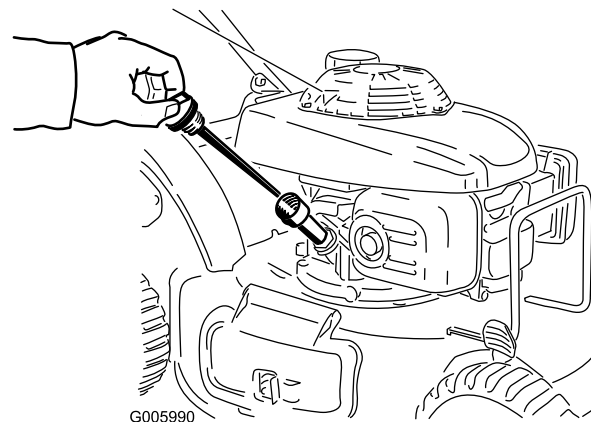

Figure 40
2. Remove the dipstick (Figure 40).
4. **Slowly** pour oil into the oil fill tube, periodically checking the level with the dipstick, until the dipstick indicates that the engine is full as illustrated in Figure 40. **Do not overfill.** (Max. fill: 20 oz. (0.55 l), type: SAE 30 detergent oil with an API service classification of SH, SJ, SL, or higher.)